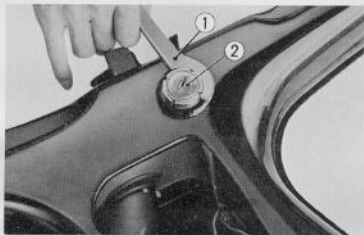

Fig. 4.48 Removing main ignition switch
3. Remove the main ignition switch ② from the left center of the frame using the main switch hook spanner ① (Tool No. 07071~25001) (Fig. 4.48)